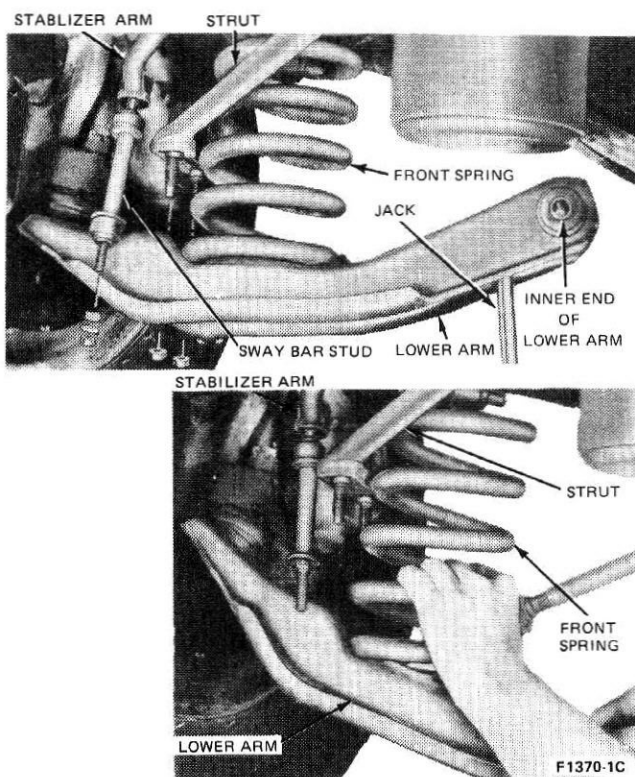

FIG. 3 Removing or Installing Front Spring—All Cars (Mustang/Pinto/Bobcat Similar)
7. **Carefully and slowly, lower the jack to relieve the spring pressure on the lower arm, then remove the spring (Fig. 3).** A pry bar may be used to remove a tight spring.